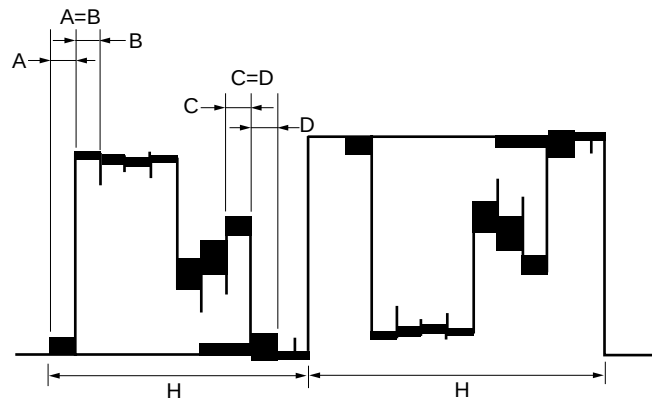
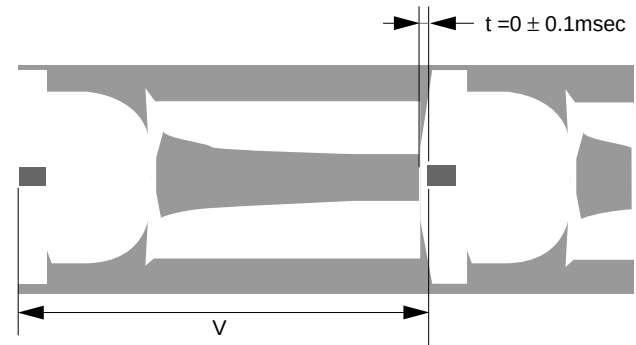

Fig. 5-1-8
Fig. 5-1-9
- 2) Adjust direction and zoom of camera so that the picture frame is adjusted as specified by Fig. 5-1-8 and Fig. 5-1-9.